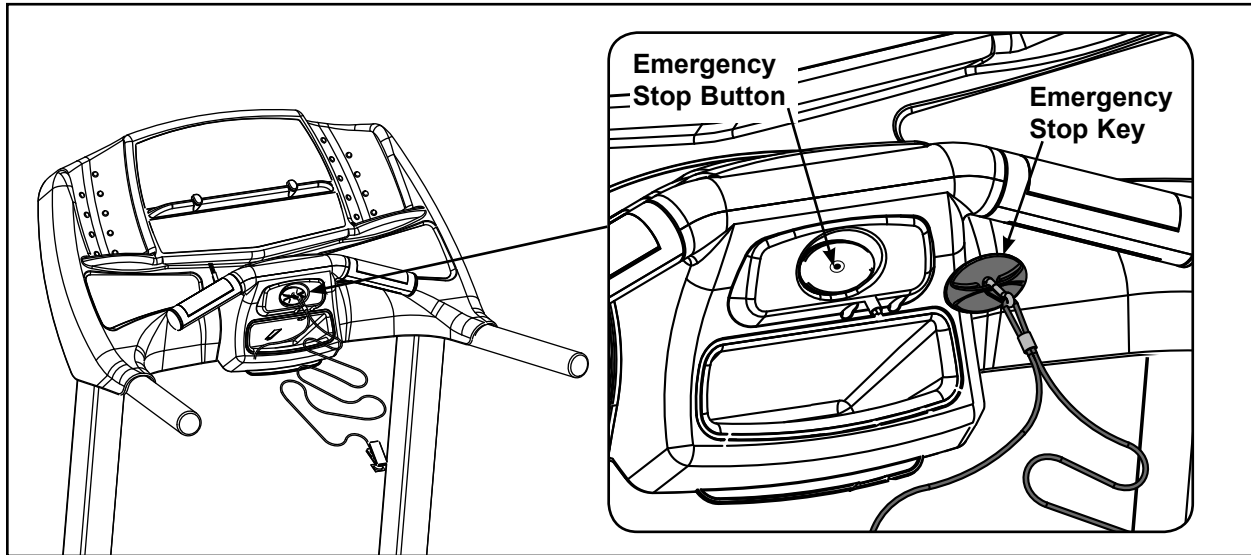

Figure 12
- A. Confirm that the emergency stop key is in place over the e-stop button. See Figure 12. **NOTE:** *The treadmill will not run without the key (or other metal) in place.*